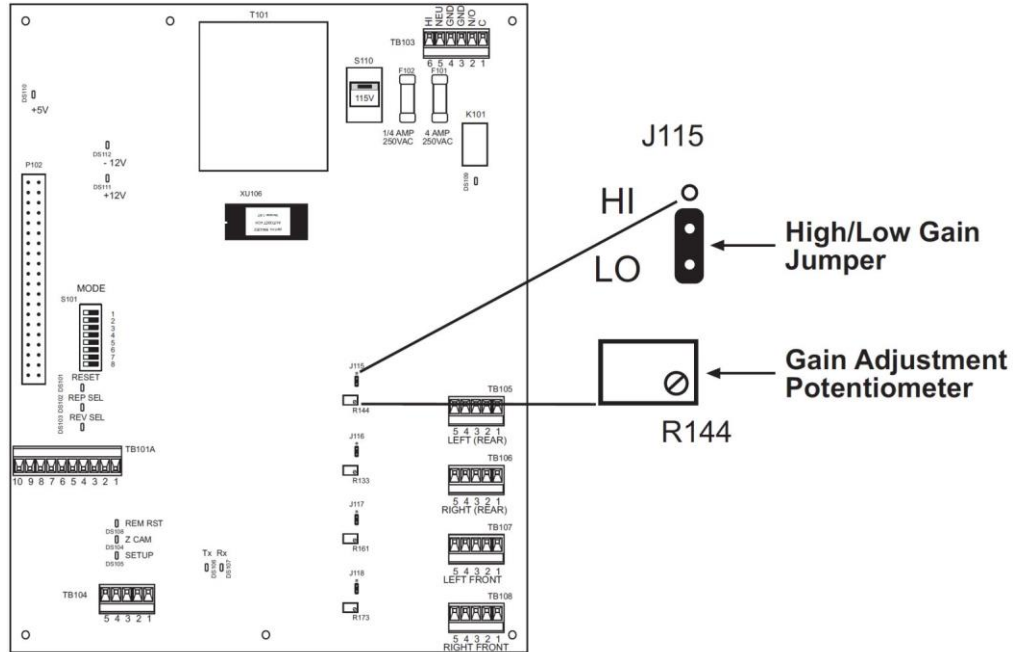

Figure 3-23. AutoSetPAC 4-Channel Processor Board: High/Low Gain Jumper and Gain Adjustment Potentiometer for Left Rear Strain Link
Potentiometers control the factor by which incoming strain link signals are amplified to make tonnage readings on your AutoSetPAC match tonnage readings on the calibration unit. You adjust each potentiometer by turning the small screw in its lower right corner (see Figure 3-23, which shows the potentiometer and jumper for the Left (Rear) strain link input). The potentiometer screw has a 12-turn limit.
Jumpers control the portion of the range within which strain link signals are amplified. Jumpers are factory set to “LO,” which selects the low end of the amplification range (see Figure 3-23). You can change the jumper setting to “HI,” which selects the high end of the amplification range, by removing the jumper from the two lower pins and placing it over the two upper pins.
- Remove the jumper from the two lower pins and place it over the two upper pins (see Figure 3-23).